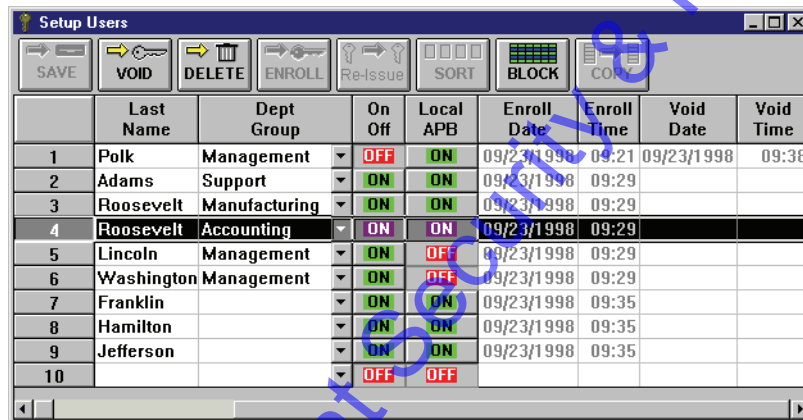

Figure 4-36: Select the First Block Void User
2. Click on the  button (see Figure 4-36).